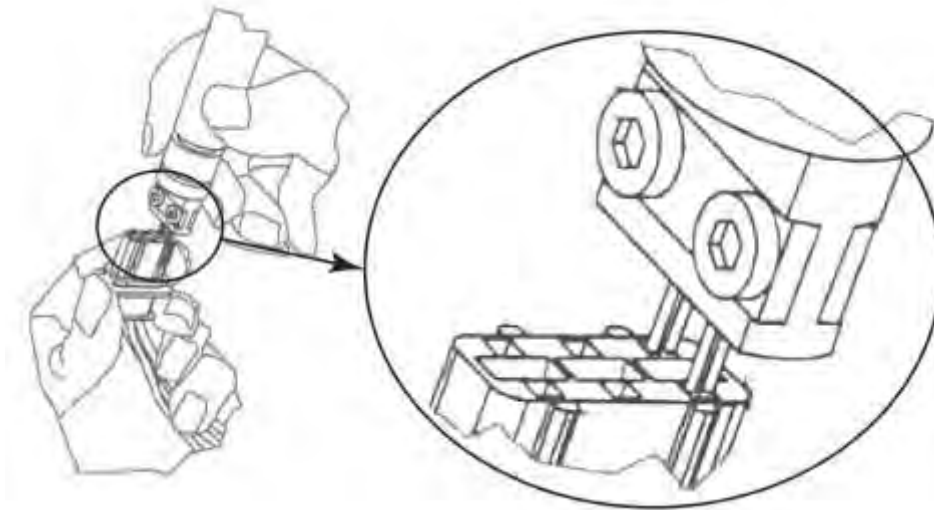

Figure 72
- (3) To release the contacts, the locking spring (tang) has to be pressed down by the pins of the disassembly tool. Insert Bosch disassembly tool 1 928 498 167 (Figure 71) into connector release openings as shown in Figure 72.